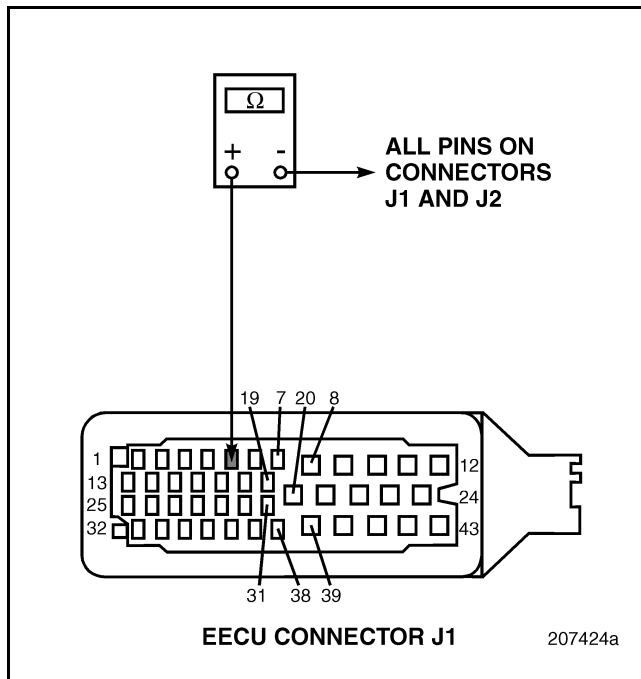

Figure 274
4. Check for continuity between EECU harness connector J1 pin 5 and all other pins on EECU connectors J1 and J2 (see Figure 274).